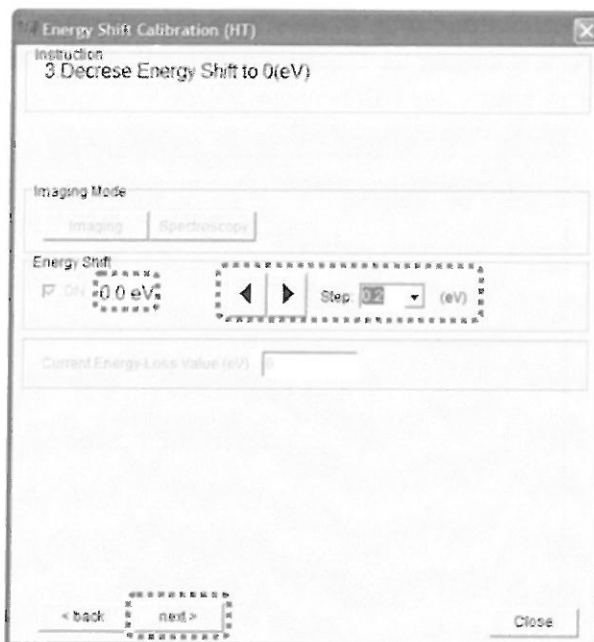

Fig. 5.39 Energy Shift Calibration (HT) - 3. Decrease Energy Shift to 0 (eV)
3. Follow "Instruction – 3. Decrease Energy Shift to 0(eV)", use the "◀" "▶" buttons to adjust the Energy Shift to 0eV (Fig. 5.39). Select the setting of the movement amount from the combo box in the Step. "When the Energy Shift becomes 0 eV", press the **next** button and proceed to the next window.